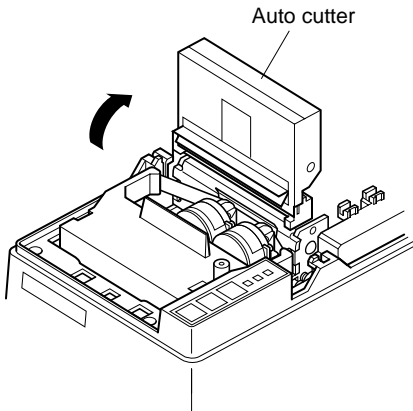

Fig. 2-9 Raise the auto cutter (SP347)
- ⑥ Lift up the auto cutter and put it in a vertical position, as shown in Fig. 2-9.